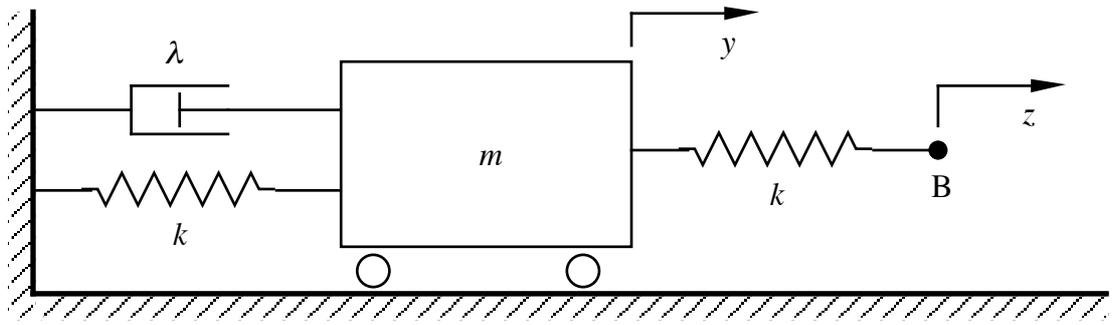

Fig. 2
5. Fig. 2 shows a mass  $m$  attached to a vertical wall by a spring of stiffness  $k$  and a dashpot of rate  $\lambda$ . The mass is attached to another spring of stiffness  $k$  to a point B which moves horizontally. The horizontal displacements of the mass and the point B from their equilibrium positions are denoted by  $y$  and  $z$  respectively. By considering the sum of forces acting on the mass, derive the equation of motion for the trolley. Show that it can be put into the form